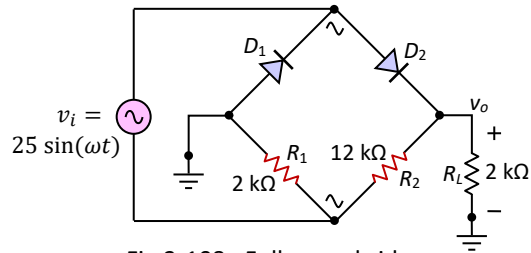

Fig.3-108: Full-wave bridge rectifier for Exercise no. 17
17. Find the output voltage across the load resistance, R_L , in the bridge circuit of Fig.3-108. Also determine the PIV rating for each diode.